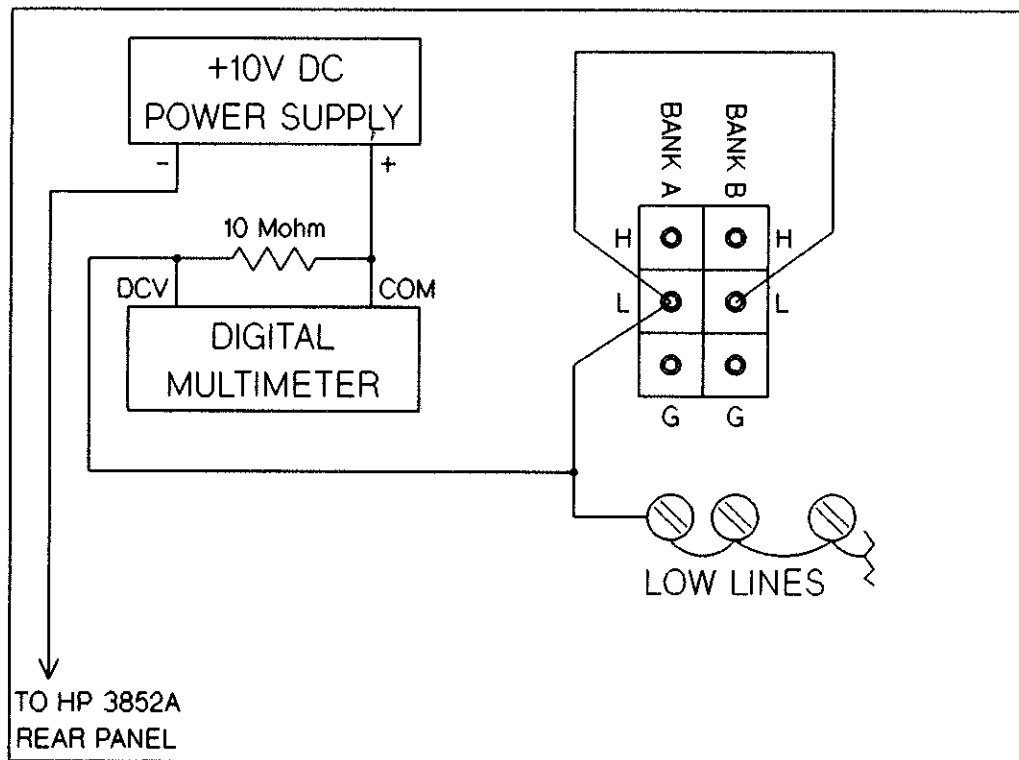

Figure 9-23 HP 44709A/44710A Closed LOW Channel Test Set-Up
32. Refer to Figure 9-23. On the test fixture, connect the shorted LOW lines to the Bank A common LOW test point. Short the Bank A and Bank B LOW common test points together.